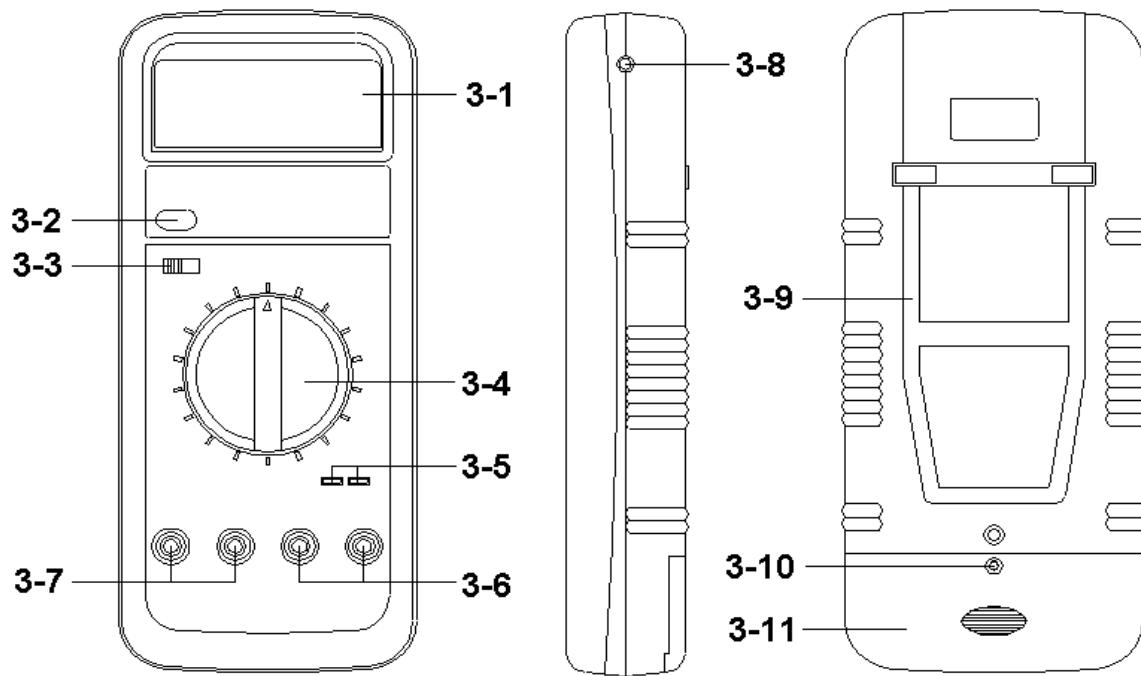

Fig. 1
- 1) Slide the " LC/R select switch " (3-3, Fig. 1) to the " LC " position.
- 4) Insert the tested inductor into socket " L/C Measuring input terminal 1 " (3-5, Fig. 1). Alternatively, connect the inductor to " L/C Measuring input terminal 2 " (3-6, Fig. 1). via using the measuring alligators supplied .
- 5) Insert the tested capacitor into socket " L/C Measuring input terminal 1 " (3-5, Fig. 1). Alternatively, connect the capacitor to " L/C Measuring input terminal 2 " (3-6, Fig. 1) via using the measuring alligators supplied .
- 1) Slide the " LC/R select switch " (3-3, Fig. 1) to the " R " position.
- 3) Connect the tested resistor into socket " Resistance Measuring input terminal " (3-6, Fig. 1) via using the measuring alligators supplied .
- 3) Connect Red alligator to " + " socket of " Diode Measuring terminal " (3-7, Fig. 1).
- 4) Connect Black alligator to " - " socket of " Diode Measuring terminal " (3-7, Fig. 1).
The instrument has RS232 PC serial interface via a 3.5 mm terminal (3-8, Fig. 1).
- 2) To replace the battery, loss the " battery cover screw " (3-10, Fig. 1) slide the battery cover (3-11, Fig 1) always from the meter and remove the battery